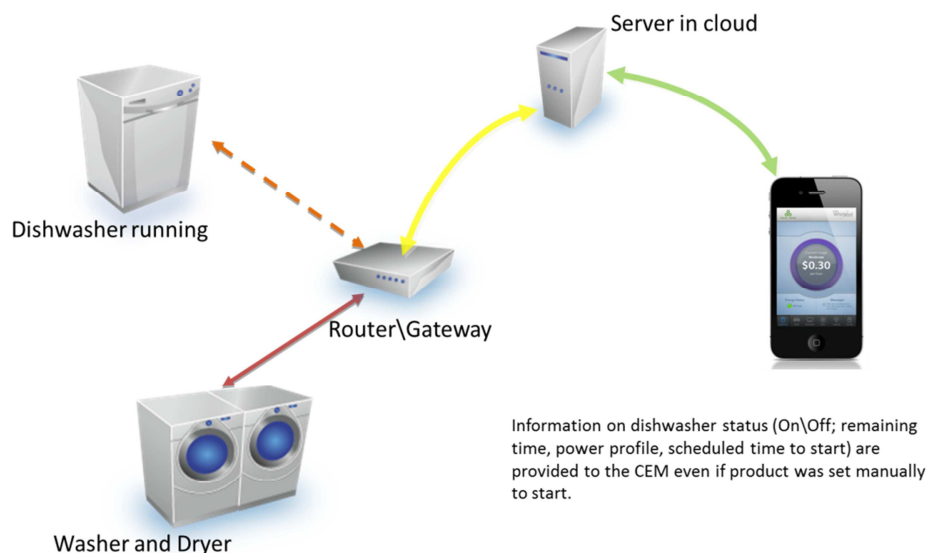

Figure 3- Appliance status and information on manually planned cycles
3. Monitoring and control information exchanged in the "Communicate appliance status and information on manually planned cycles" use case shown in Figure 3. The source used for defining the monitoring and control information in SAREF4EE is the *Energy@Home Data Model version 1.0*.